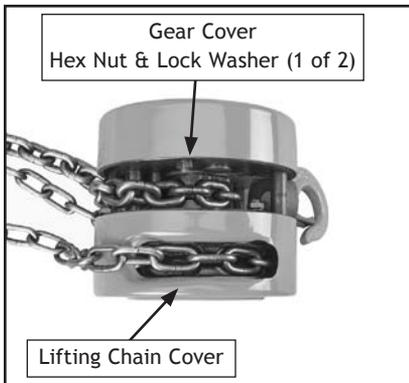

Figure 2. Gear cover fasteners.
1. Lay the hoist housing on a flat working surface with the lifting chain cover facing down (see Figure 2).